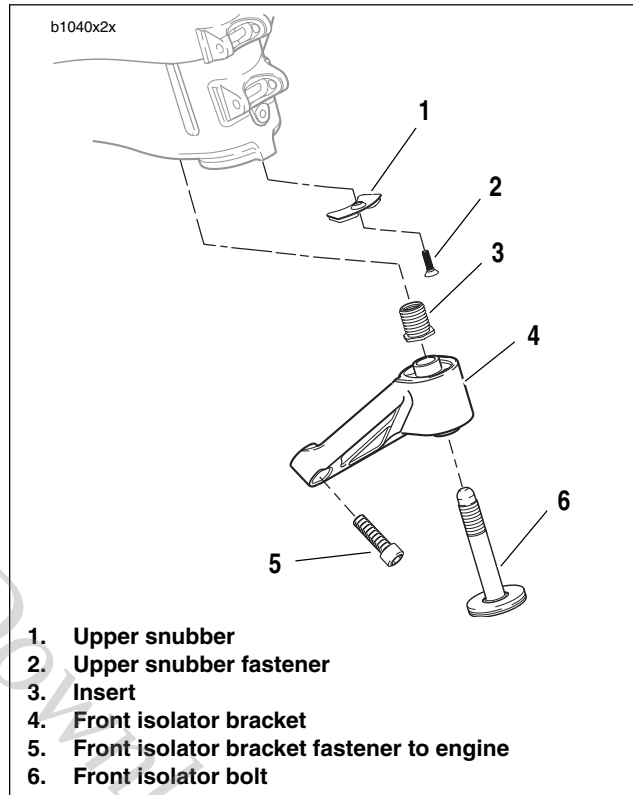

Figure 2-86. Front Isolator
3. See Figure 2-86. Remove front isolator bolt (6).
4. Remove front isolator mount fasteners (5).
5. Remove front isolator bracket (4).
6. Remove upper snubber fastener (2) and remove upper snubber (1).
1. See Figure 2-86. Install upper snubber (1) tightening snubber fastener (2) to 12-36 **in-lbs** (1-4 Nm).
3. See Figure 2-86. Use LOCTITE 272 on front isolator bracket (4) and install. Tightening fastener (5) to 49-51 ft-lbs (66-69 Nm).
See Figure 2-86. If the threaded insert (3) is damaged and needs to be replaced, install new insert with LOCTITE 272 and tighten to 49-51 ft-Lbs (66.4-69.1 Nm).